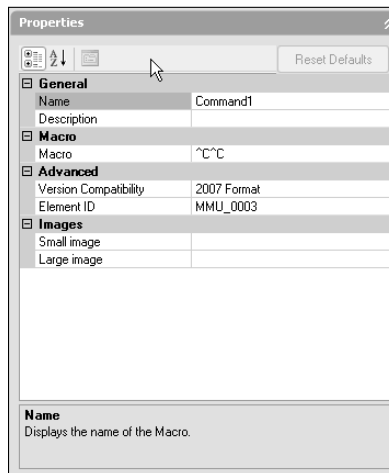

**Figure 29-7:** You define a toolbar button in the Properties pane of the Customize User Interface dialog box.
2. In the Command List pane, click the New button. The Properties pane shows the properties of the new toolbar button, as shown in Figure 29-7.